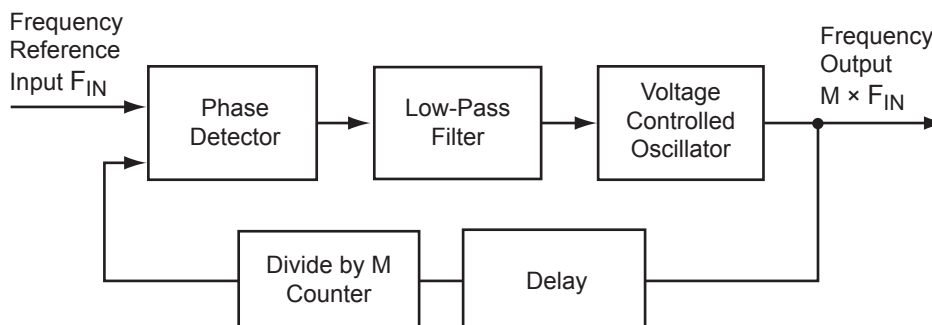

Figure 4-18 • Simplified PLL Core with Feedback Divider and Delay
This section briefly describes the basic principles of PLL operation. The PLL core is composed of a phase detector (PD), a low-pass filter (LPF), and a four-phase voltage-controlled oscillator (VCO). Figure 4-18 illustrates a basic single-phase PLL core with a divider and delay in the feedback path.
Consider Figure 4-18 with the feedback path bypassing the divider and delay elements. If the LPF steadily applies a voltage to the VCO such that the output frequency is identical to the input frequency, this steady-state condition is known as lock. Note that the input and output phases are also identical. The PLL core sets a LOCK output signal HIGH to indicate this condition.